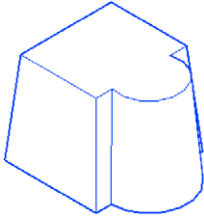

Fig. 12.14 Second example – **Extrude**
**Second example – Extrude (Fig. 12.14)**
The result is shown in Fig. 12.14.